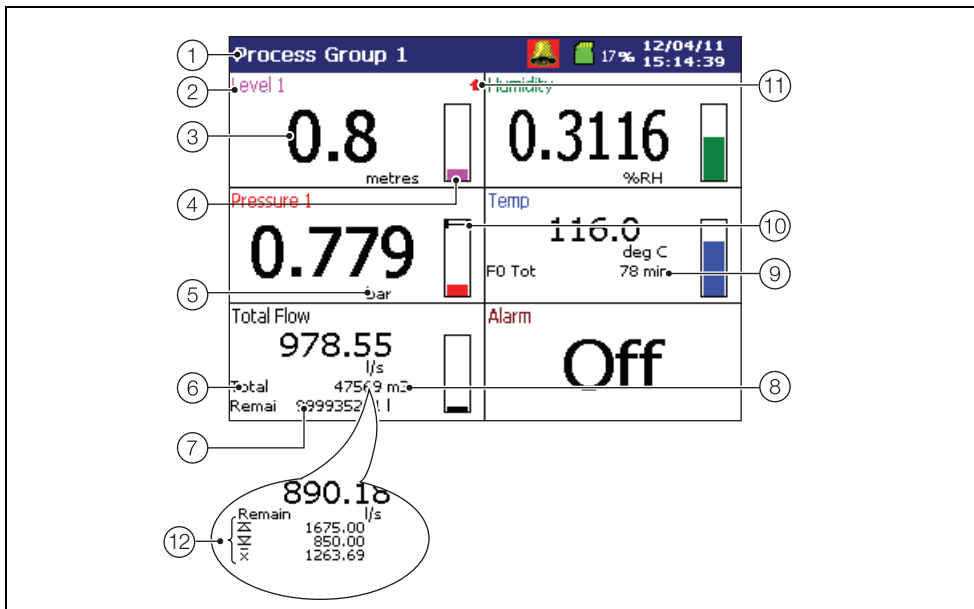

Fig. 4.5 Indicator View
Key to Fig. 4.5:
**Note.** Active unacknowledged alarms in the current process group are identified by a flashing Alarm Event icon to the right of the associated channel reading. Active acknowledged alarms are identified by a continuous Alarm Event icon – see item ⑩ in Fig. 4.5, page 38.